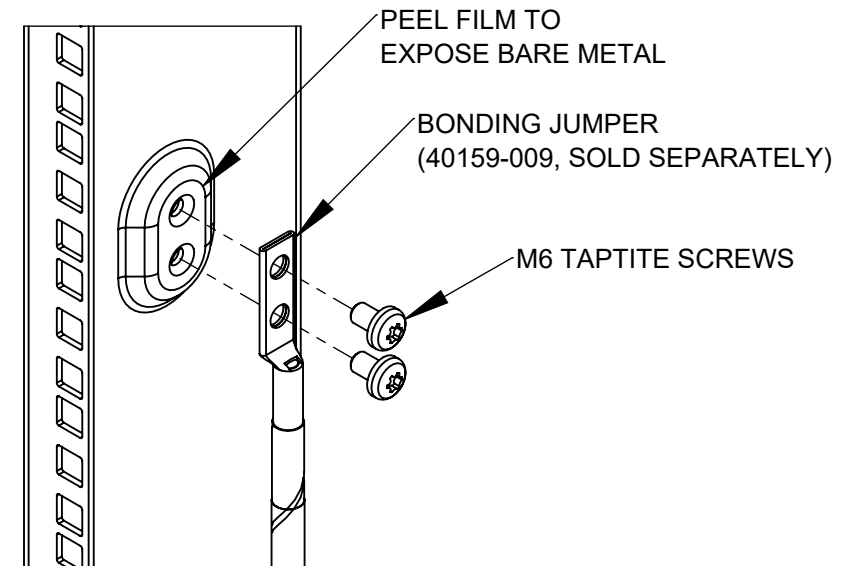

Fig. 5
The Bonding Jumper (Fig. 5) is sold as a separate accessory and installs onto the Rear Chassis grounding emboss using (2) M6 Taptite Screws.